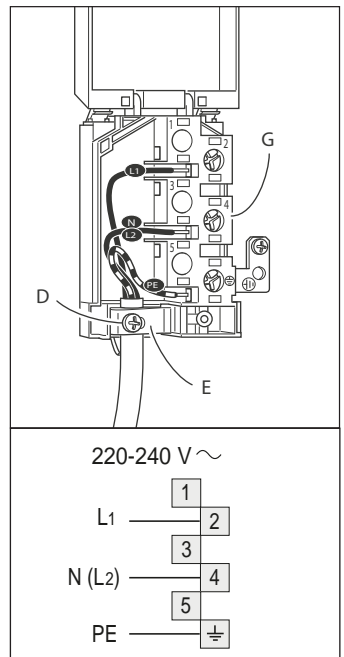

Fig. 15 Connection diagrams
- 2 Unscrew the screw 'D' and open completely the cable clamp 'E' (figs. 15).
- 3 Connect the phase, neutral and earth wires to terminal board 'G' according to the diagrams in Fig. 15.